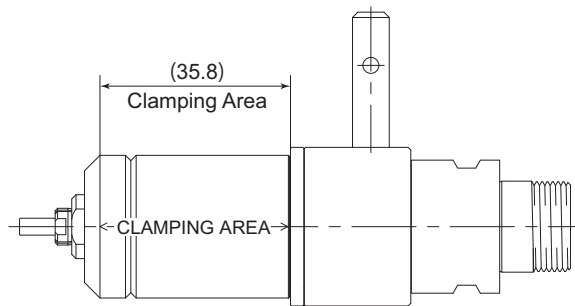

Fig. 7
- When mounting a spindle, refer to the Clamping Area etched on the spindle. (Fig. 7)